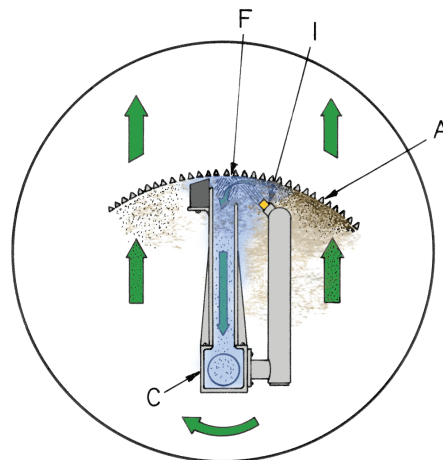
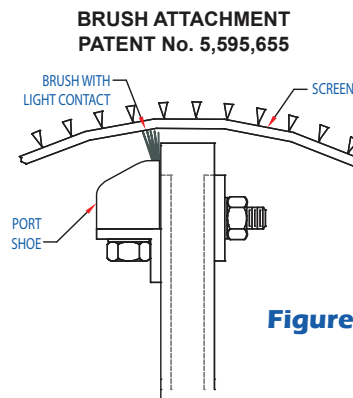

Figure 3b
Figure 3c
4. During backwash or cleaning cycle, the motor/gear reducer (B) is engaged and drives the hollow drive shaft (C) and hollow port (D) around the inner circumference of the strainer element.
5. The backwash assembly (C), (D), and (E) are opened to atmospheric pressure by opening the backwash control valve (Not shown).
6. The external source of fluid is introduced by opening the control valve (Not shown) connecting the spray nozzles (J) at the leading edge (F) of the backwash assembly.
7. A "Jet" spray action occurs at the straining element inside surface (See Figure 3b) in addition to the flow reversal at the port/straining element inter-face (H).
8. Debris is effectively removed from the full length of the straining element by a vigorous Hyper-Jet® fluid flow into the hollow port; down the hollow drive shaft and out the backwash outlet (G).
9. A brush molded to the port shoe facilitates debris removal on the straining element (See Figure 3c). A non-brush port shoe is available as an option.